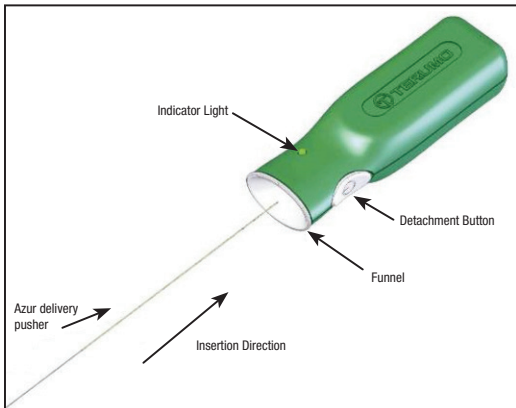

Figure 4 – Azur Detachment Controller
12. Peel open the Azur Vascular Plug pouch and remove the dispenser hoop from the pouch. Prior to using the device, remove the wedge from the dispenser hoop. While keeping the Azur Vascular Plug implant and introducer in place, pull the pusher out of the dispenser hoop such that the proximal end of the delivery pusher is exposed. Use care to avoid contaminating this end of the delivery pusher with foreign substances such as blood or contrast. Firmly insert the proximal end of the delivery pusher into the funnel section of the Azur Detachment Controller. See Figure 4. **Do not push the detachment button at this time.**
31. Connect the proximal end of the delivery pusher to the Azur Detachment Controller by firmly inserting the proximal end of the delivery pusher into the funnel section of the Azur Detachment Controller. See Figure 4.